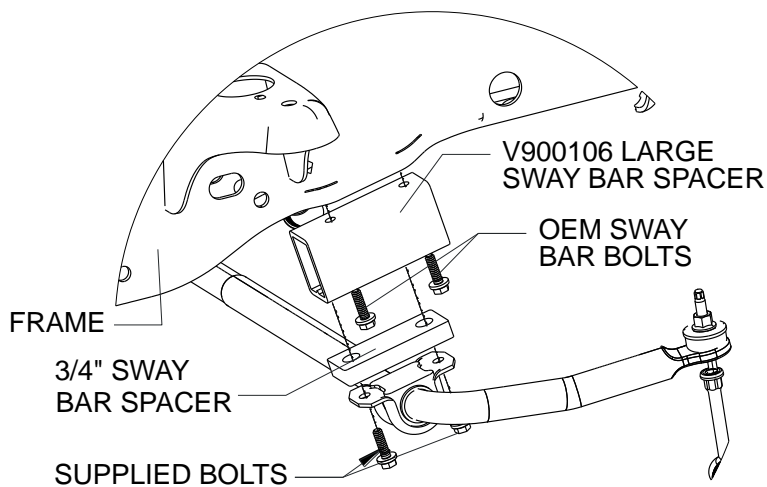

Figure 3.14
- ☐ Attach the large supplied sway bar spacer to the frame using the OEM bolts. Use the 3/4" sway bar spacer between the sway bar and the large sway bar spacer. Attach the sway bar to the sway bar spacer using the supplied flange head bolts (Figure 3.14).